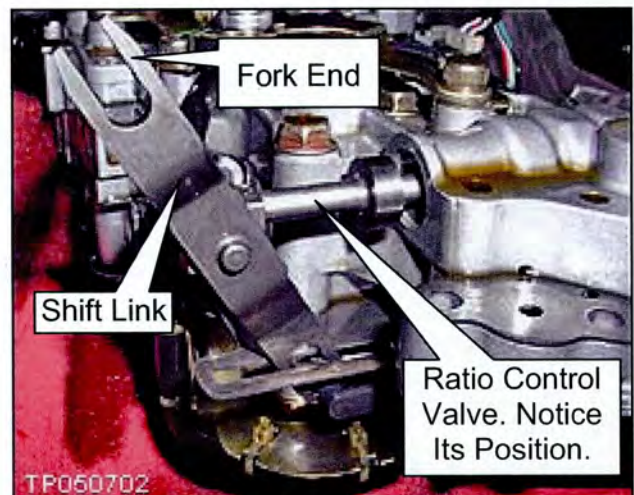

Figure 8
- Note the position of the Ratio Control Valve and attached shift link (see Figure 8).